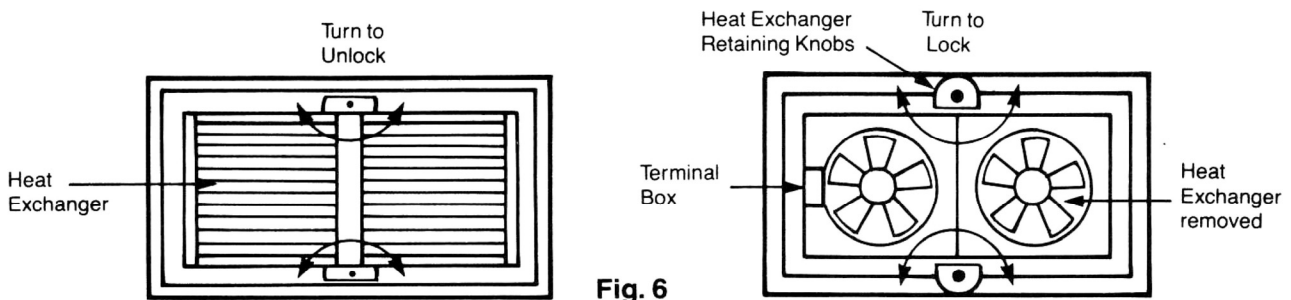

Fig. 6
8. After turning the heat exchanger retaining knobs to the unlocked position, withdraw the heat exchanger (see Fig.6).
Pass the supply cable through the largest cable gland in the side of the terminal box. For the HR500X the cable from the shuttered grille passes through the remaining free cable gland. Cut the cables to the minimum length required and make the internal wiring connections within the terminal box (see Fig.6). Connect the supply cable from Vent-Axia Controller to the appropriate terminals of the terminal block within the terminal box as shown in Fig. 9. If a Vent-Axia Controller is not used, connect the supply cable as shown in Fig. 10. Ensure all cable glands are tightened sufficiently to seal onto the cables.